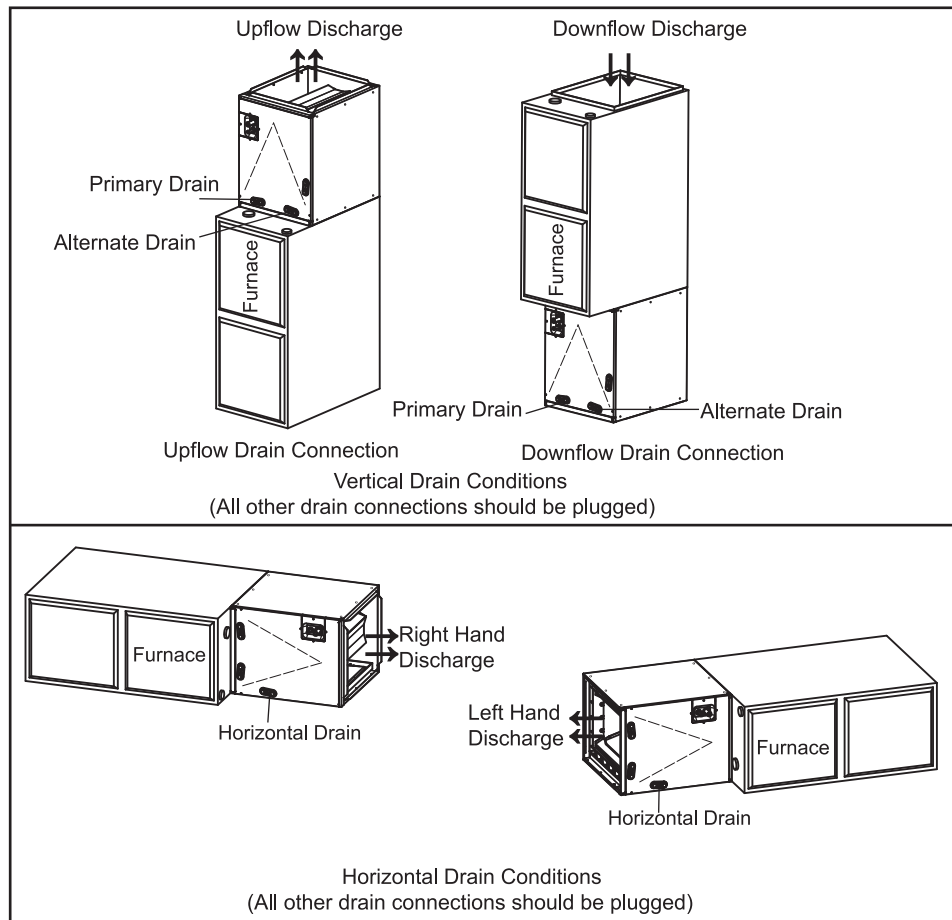

Fig.4 INSTALLATION OF CASSED COIL
The coil can be positioned for bottom return air in the upflow and horizontal right applications. It must be positioned for top return when in downflow and horizontal left applications. See figure 4. For furnace applications, the coil must be installed downstream (in the air outlet) of the furnace.
1. See Fig.4 for coil installation and drain connection.
See Figure 4. In case that coil and furnace sizes are not matched, use proper size of sheet metal or other material to fill the gap and seal the gap to prevent air leak ;